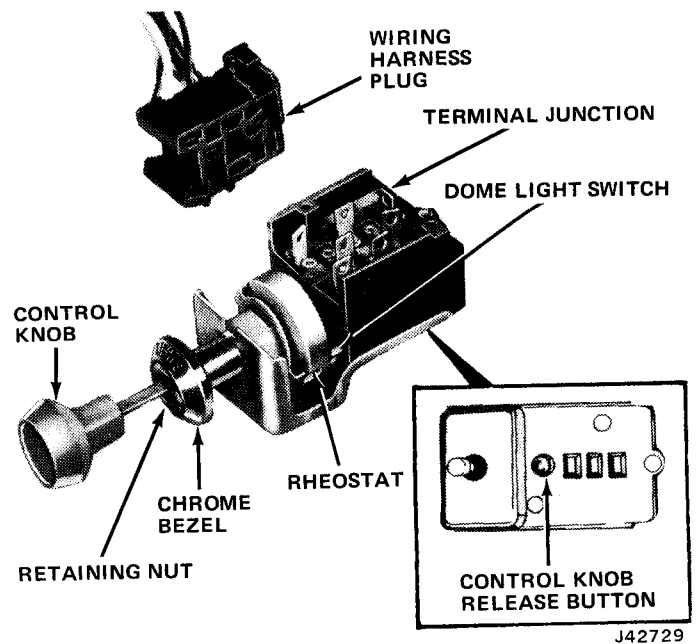

Fig. 3-74 Headlamp Switch
The switch is a two-position switch containing a rheostat for controlling instrument panel light brightness (fig. 3-74). Rotating the knob clockwise dims the panel lights. Rotating the knob fully counterclockwise turns on the dome and courtesy lamps.
- (1) To remove switch, first disconnect wire connector plug from switch.
- (2) Pull control knob out to second position.
- (3) From behind instrument panel, depress knob release button (as shown in figure 3-74 inset) and pull knob out of switch.
- (4) Remove retaining nut and bezel.
- (5) Remove switch through rear of instrument panel.
- (6) When replacing switch, make sure wire terminal plug on switch is tight on connections.